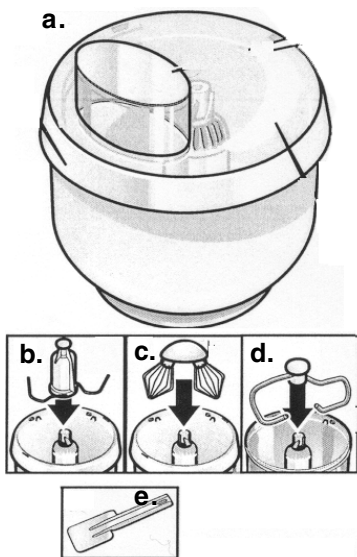

Figure 4.
All models of the Bosch Concept Series Kitchen Machines are provided with a six-quart mixing bowl with twin beating whisks and dough hook. You may have either the stainless steel bowl or the plastic mixing bowl with the twin beating whisks and dough hook, see figure 1. Or you may have the standard dough hook or the professional dough hook. Additional mixing bowls are available as accessory items under the part numbers: **MUZ 7 ER1** and/or **MUZ 7 KR1**, refer to SPECIAL ACCESSORIES section at the back of this manual. The mixing bowl with dough hook and twin beating whisks consists of the following components, dependent upon the system you have, see figure 4:
2. If you have not already done so, remove the motor drive cover and place the mixing bowl on the mono drive of the power unit and turn the bowl counterclockwise with a slight downward pressure until bowl is firmly seated on the mono drive coupling, see figure 4.